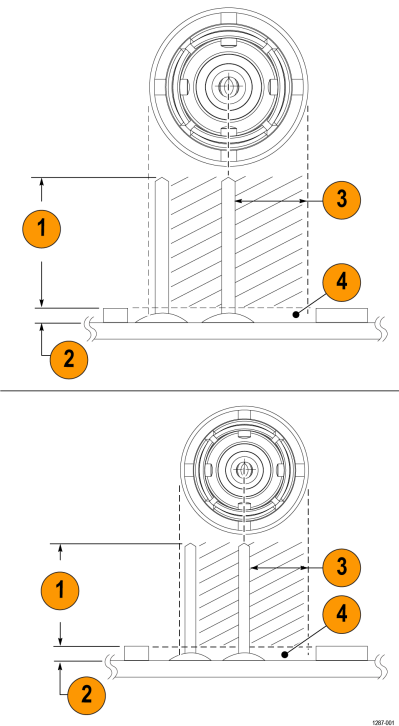

Figure 7: Adapter clearance requirements
The solder pins can be installed around a surface mounted component on the circuit board, but adequate clearance should be maintained for a good electrical connection for the adapter. Figure 7 on page 28
3. If necessary apply a small amount of adhesive to further strengthen the connection to the circuit board. However, keep the height of the adhesive to a minimum to provide good electrical contact for the adapter. Figure 7 on page 28